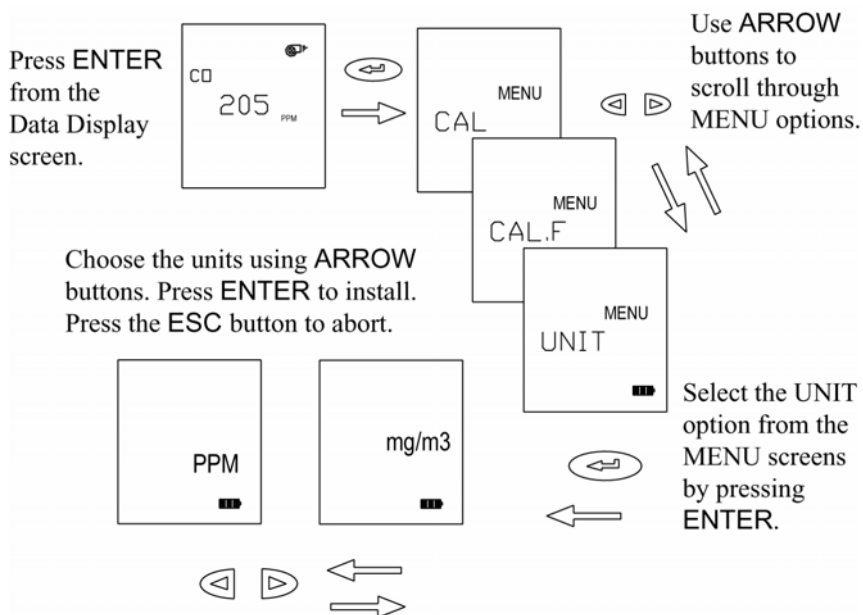

Figure 4. Choosing Display Units
1. To begin, press the ENTER button from the Data Display screen. The CAL screen appears. CAL is one of three MENU options selectable using the ARROW buttons (reference Figure 4).